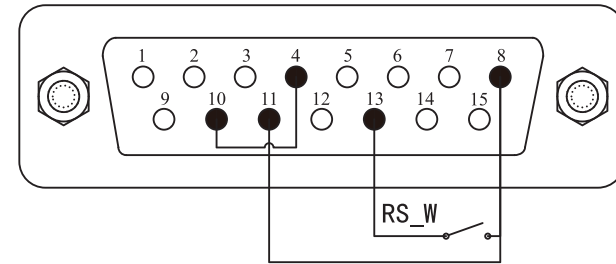
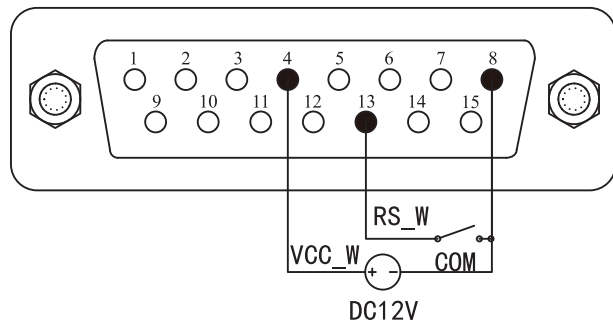

Figure 19 Internal 12V Power Supply Wiring Diagram in Level Mode
Figure 18 External 12V Power Supply Wiring Diagram in Level Mode
- When the power is cut off, connect the circuit according to figure 18 or figure 19, and connect the DB15 interface to the back interface of the pump.